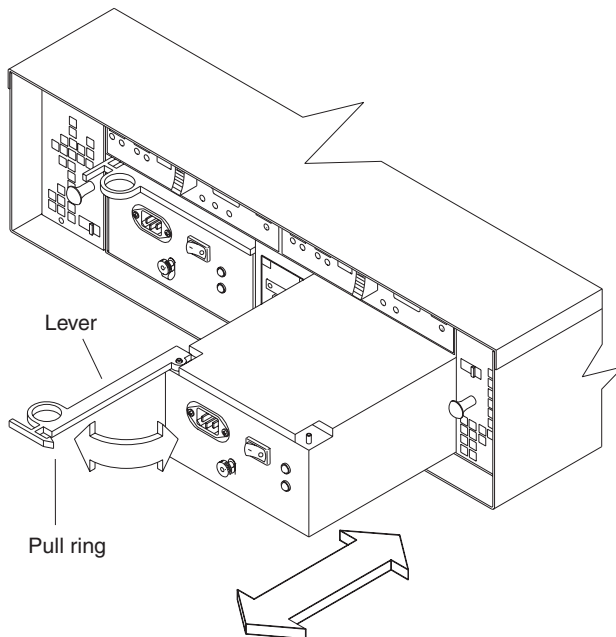

Figure 14. Removing a power supply
2. Pull the lever open 90° and remove the power supply, as shown in Figure 14.